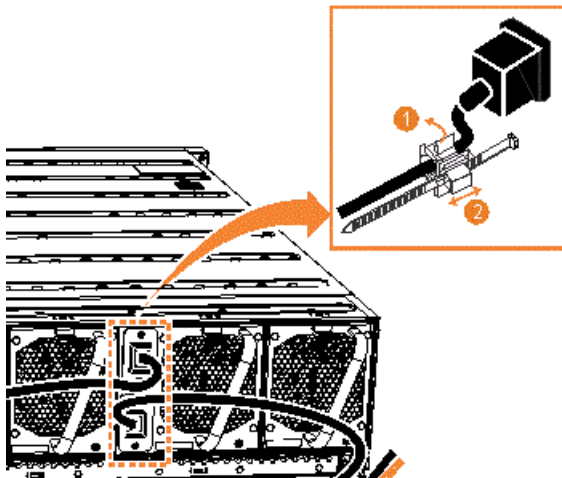

Figure 52. Secure power cables
2. Secure the power cables in the cable retainer at each power connector on the rear of the enclosure, as shown in Figure 52 on page 63. Also, ensure that each cable is installed along one of the cable management arms. The cable management arms also support the SAS cables.